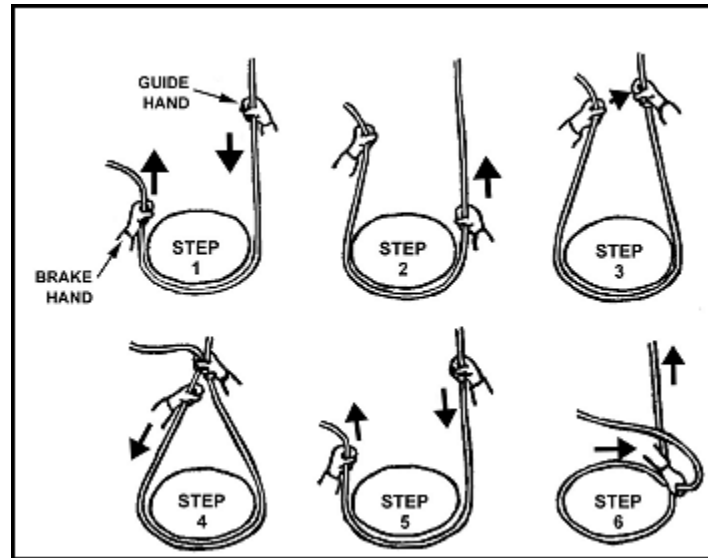

Figure 6-21. Managing the rope.
- (1) Grasping the rope with both hands, place it behind the back and around the hips. The hand on the section of rope between the belayer and the climber would be the guide hand. The other hand is the brake hand.
- (2) Take in rope with the brake hand until the arm is fully extended. The guide hand can also help to pull in the rope (Figure 6-21, step 1).
- (3) Holding the rope in the brake hand, slide the guide hand out, extending the arm so the guide hand is farther away from the body than the brake hand (Figure 6-21, step 2).
- (4) Grasp both parts of the rope, to the front of the brake hand, with the guide hand (Figure 6-21, step 3).
- (5) Slide the brake hand back towards the body (Figure 6-21, step 4).
- (6) Repeat step 5 of Figure 6-21. The brake can be applied at any moment during the procedure. It is applied by wrapping the rope around the front of the hips while increasing grip with the brake hand (Figure 6-21, step 6).